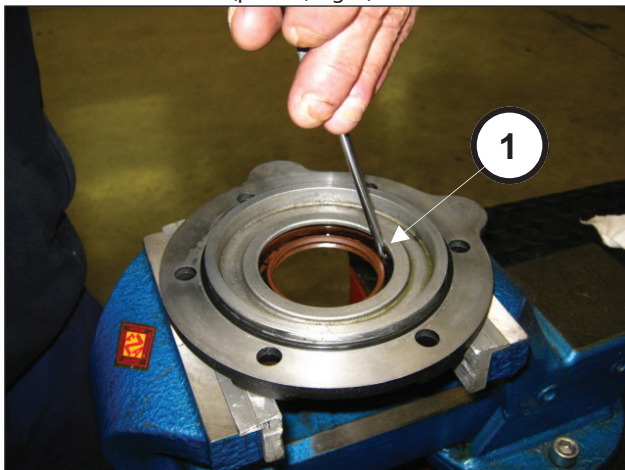

Fig. 9
Extract the seal ring from the pinion cover, working from the inner side of the cover (pos. ①, Fig. 9).